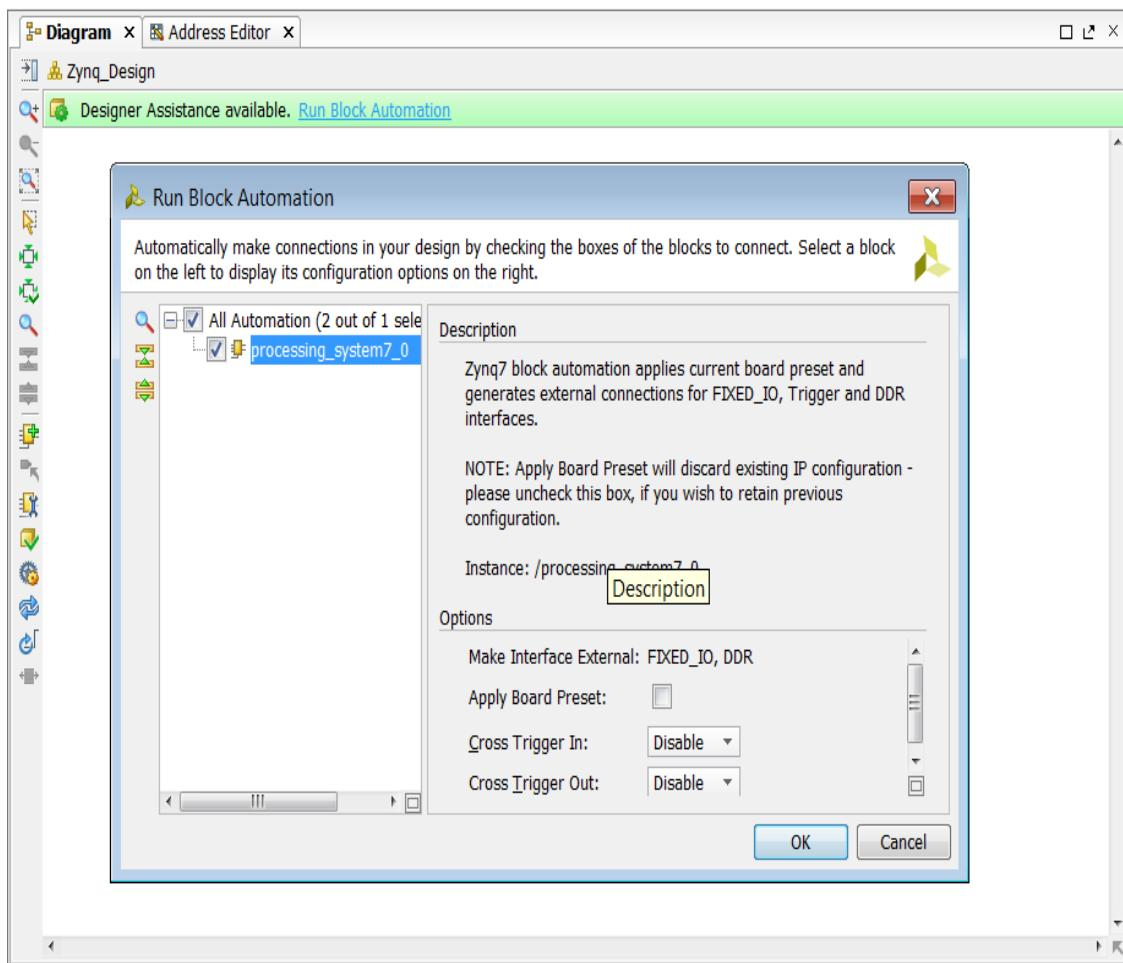

Figure 10-18: Run Automation
6. Click the **Run Block Automation** link under the title bar (Figure 10-18).
- b. Ensure **Apply Board Presets** is deselected. If this remains selected it re-applies the timers that were disabled in step 4 and results in additional ports on the Zynq block in Figure 10-18.